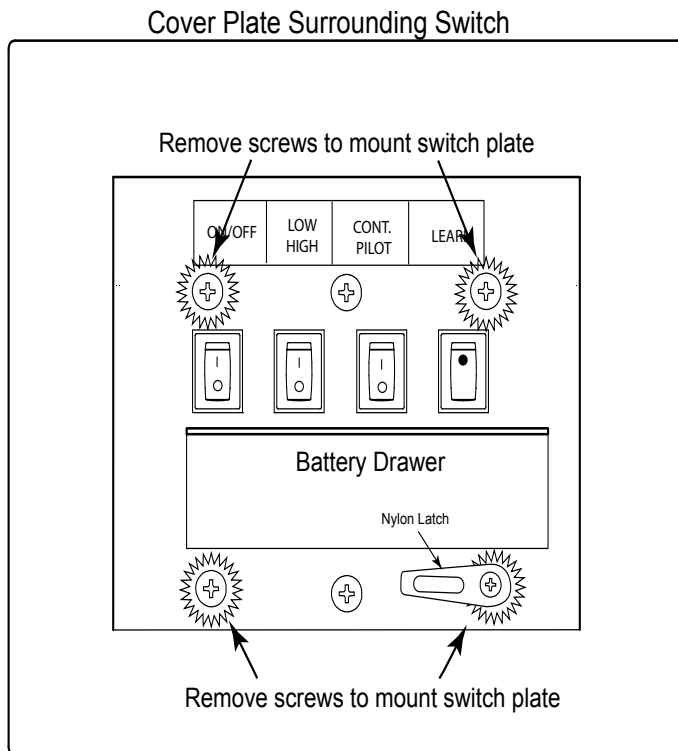
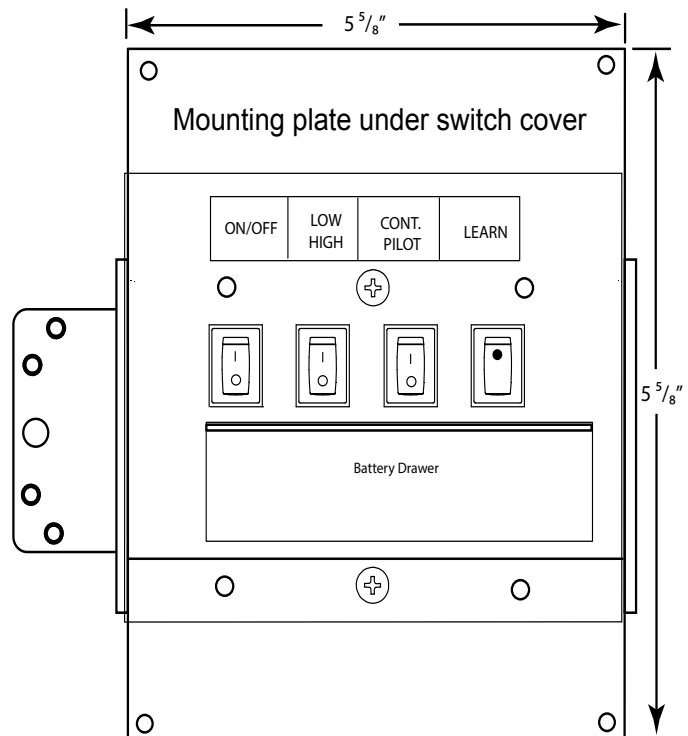
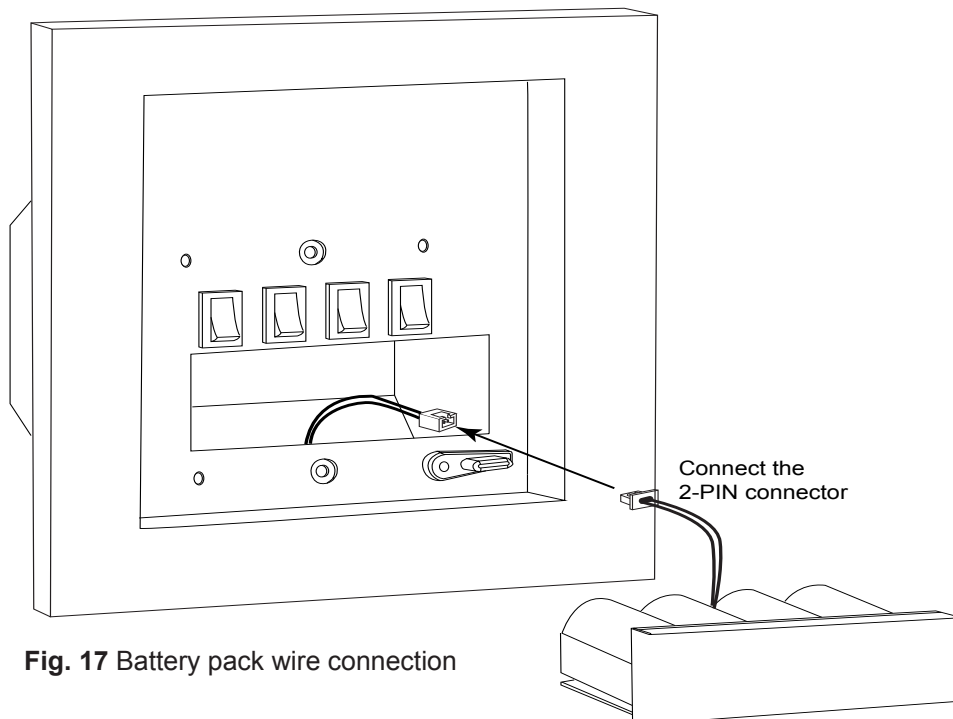

Fig. 14 Control box with 8 $\frac{3}{4}$ " x 8 $\frac{3}{4}$ " cover/face plate.
Fig. 15 Control box mounting plate
Fig. 17 Battery pack wire connection
Step 4: Remove the control box from the components parts carton. The fireplace is supplied with 10-feet of wiring for the control box switch installation. Find a suitable location within a close proximity of the fireplace for convenience of operation and mount the control box upright and level as shown in Fig. 13 on page 16. Use Figs 14 & 15 for dimensional reference. **CAUTION:** Ensure all switches are in the OFF position. "I" indicates ignite/ON and "O" indicates OFF. The switch on the far right is a "Learn" switch. It does not turn ON and OFF, it remains in its original position.
Step 5: Remove the four (4) outer screws from each corner inside the cover plate shown in Fig. 14 and remove the outer face plate and nylon latch. This will expose the mounting plate. See Fig. 15. **CAUTION:** Do not remove the two center screws from the cover plate. This will release the entire switch box wiring from inside the junction box and make it difficult to reinstall.
Step 9: Turn (rotate) the nylon latch up or down (out of the way) of the battery box drawer (Fig. 14; page 17).
Step 10: Pull the battery box drawer out of the control box and install the (4) C-size batteries (included) in the battery pack. Follow the diagram inside for battery direction.
Step 11: Look for the 2-PIN connector at the back of the battery pack and the mating 2-PIN connector inside the control box. Insert the male connector into the female connector then carefully install the battery pack drawer back into the control box. Move the nylon latch over edge of the battery box drawer to secure it into place. See Fig. 17. **Note:** Careful not to pinch the wires when installing the battery box drawer back into the control box.